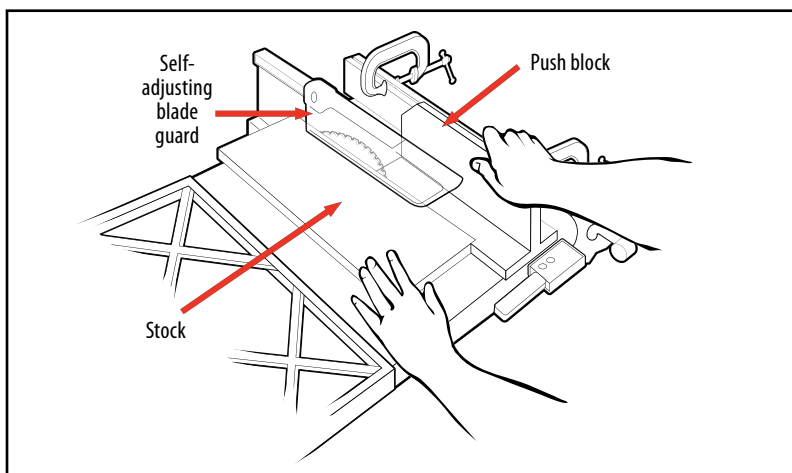

Figure 4.12. Typical table saw.
- **Ripping and crosscutting** – Enclose the portion of the saw above the table with a self-adjusting guard as shown in Figure 4.12. The guard must adjust to the thickness of the material being cut and remain in contact with it. The guard should be hinged so it can be easily moved away for saw changes.